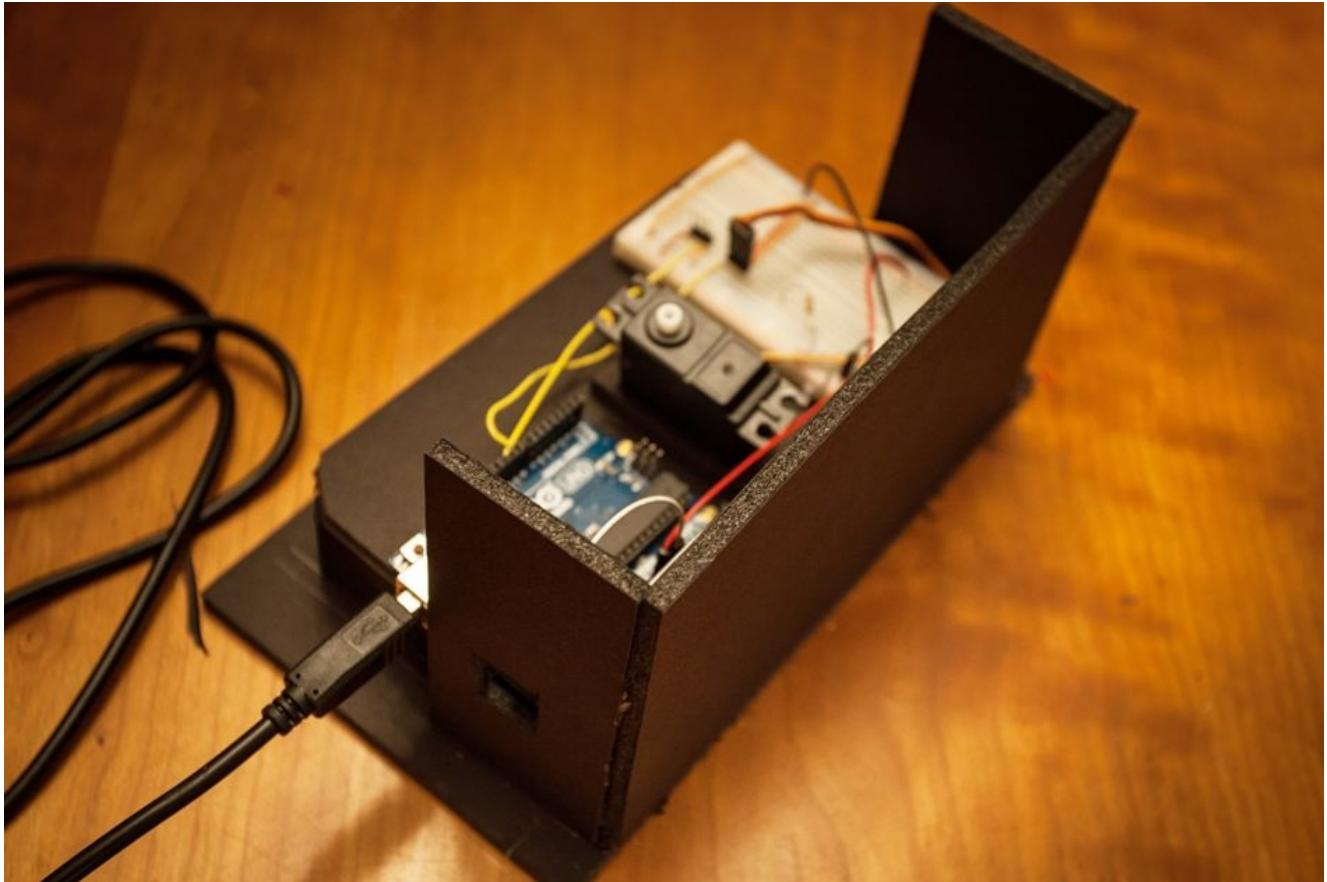

Figure 7-7. The rear and side walls in place
4. Glue 'em up! It should look like Figure 7-7.